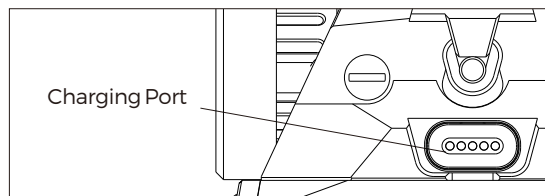

Fig3
- 2) Connect the USB end of the dedicated USB magnetic cable to an external USB power source, and then connect the other end of the cable to the magnetic charging port of the DRS-NV as shown in Figure 3.